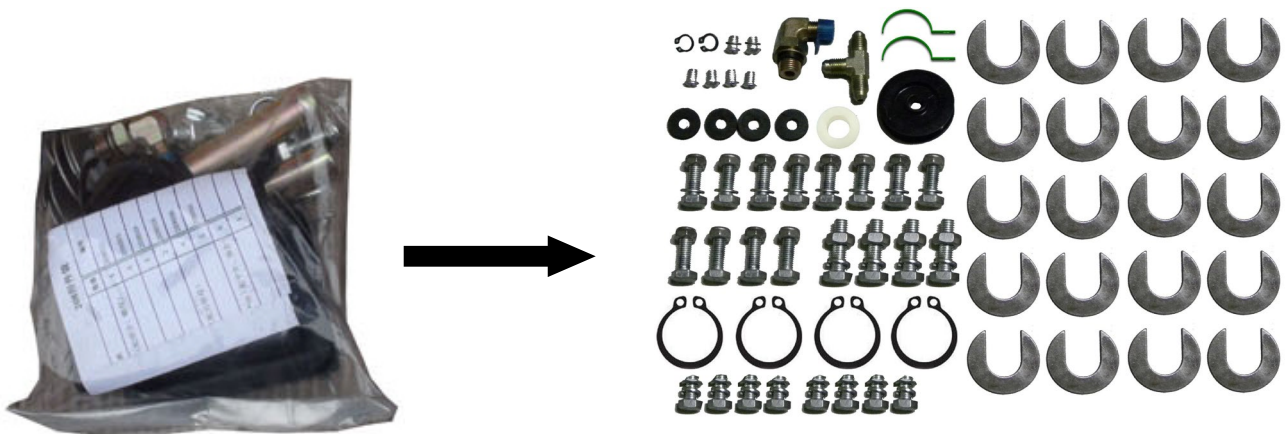

Fig. 10
5. Open the parts bag and check the parts according to parts box list (**See Fig. 10**).